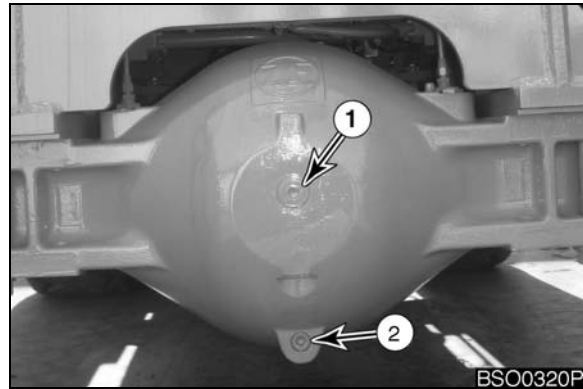

Figure 83 FRONT AXLE
3. Clean area around level plug (1, Figure 83) and drain plug (2) on center differential. Remove level plug (1) and drain plug (2). Allow oil to drain into a suitable container.
NOTE: *Plug Size (1, Figure 83):
*Plug Size (2, Figure 83):
4. Install drain plug (2, Figure 83) into center differential, and tighten. Install drain plugs on both ends of axle, and tighten.